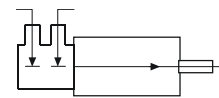

Fig. 1
3. Magnetic valve: normally powered, see fig. 1.